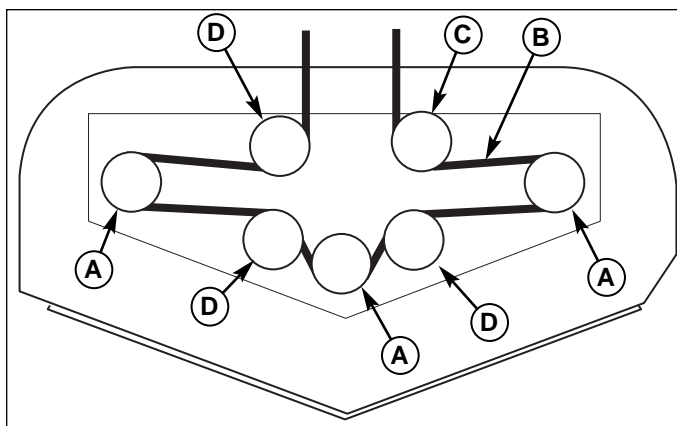

Figure 50. Mower PTO Belt Routing
6. Remove the old belt and replace with a new one. Make sure the V-side of the belt runs in the pulley grooves (Figure 50).